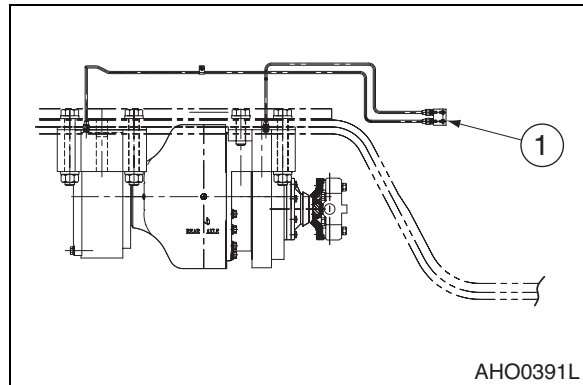
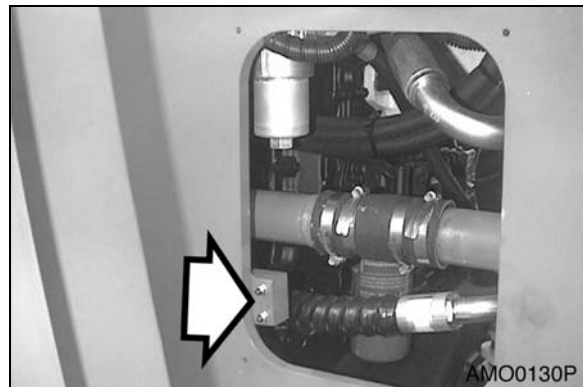

Figure 39 (S/N 3001 thru 4000)
Figure 40 (S/N 3001 thru 4000)
- F: Rear Axle pivot (1, Figure 39 and Figure 41), 2 locations on each side of machine. Use remote grease fittings mounted on frame shown in (Figure 40 and Figure 42).